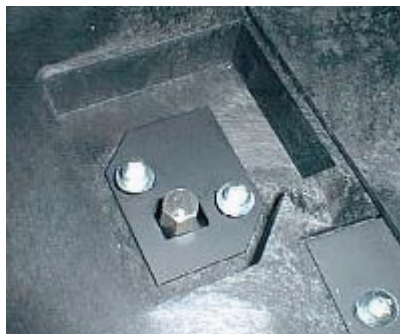

Figure 81 Screwing down the plates
6. Press each connector in turn and remove the cables, as shown in Figure 81.